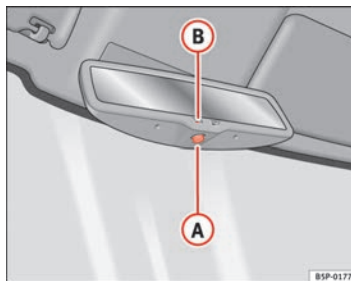

Fig. 63 Automatic anti-dazzle interior mirror.
- Press button **A** ⇒ fig. 63. Warning lamp **B** goes out: ▶
- Press button **A** ⇒ page 97, fig. 63. Warning lamp is lit.